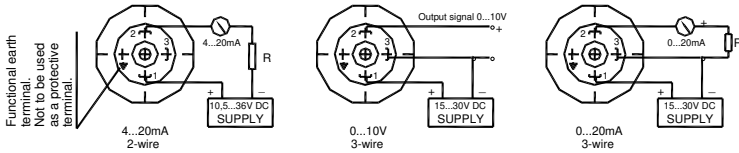

Fig. 1a. Wiring diagram for PCE-28, PRE-28P transmitters and PCE-28P probe (Not applicable to Ex version)
The transmitter earthing methods are detailed in figures 1a and 2.
12.5.1. The transmitter probe should be connected as detailed in figure 1a.